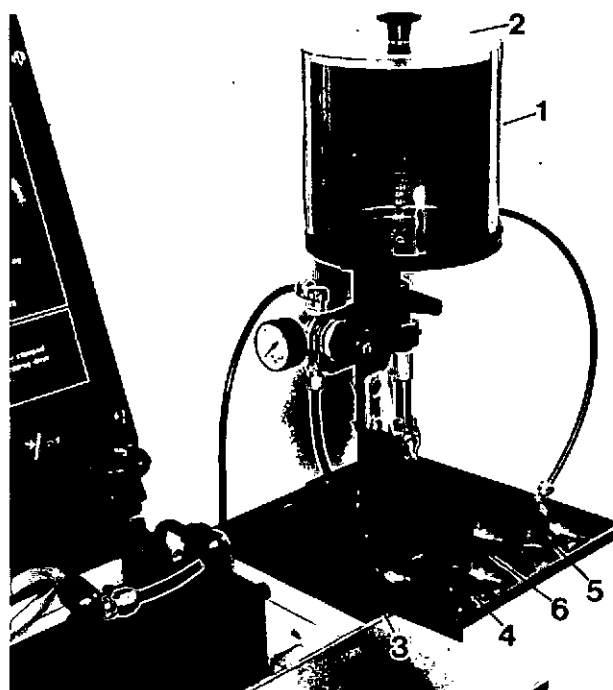

Fig. 2-28. 3376350 Injector Cup Spray Tester
1. Use the injector cup spray tester, Tool No. 3376350, to check the cup spray holes, Fig. 2-28.